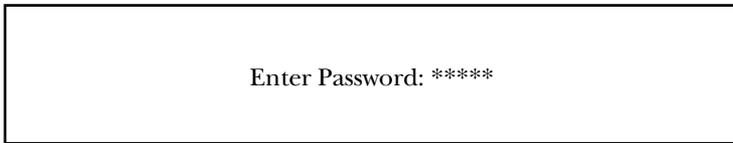

Figure 3-19. Login Screen.
4. After the CSU/DSU is powered on, the control port will display the login screen shown in **Figure 3-19**.